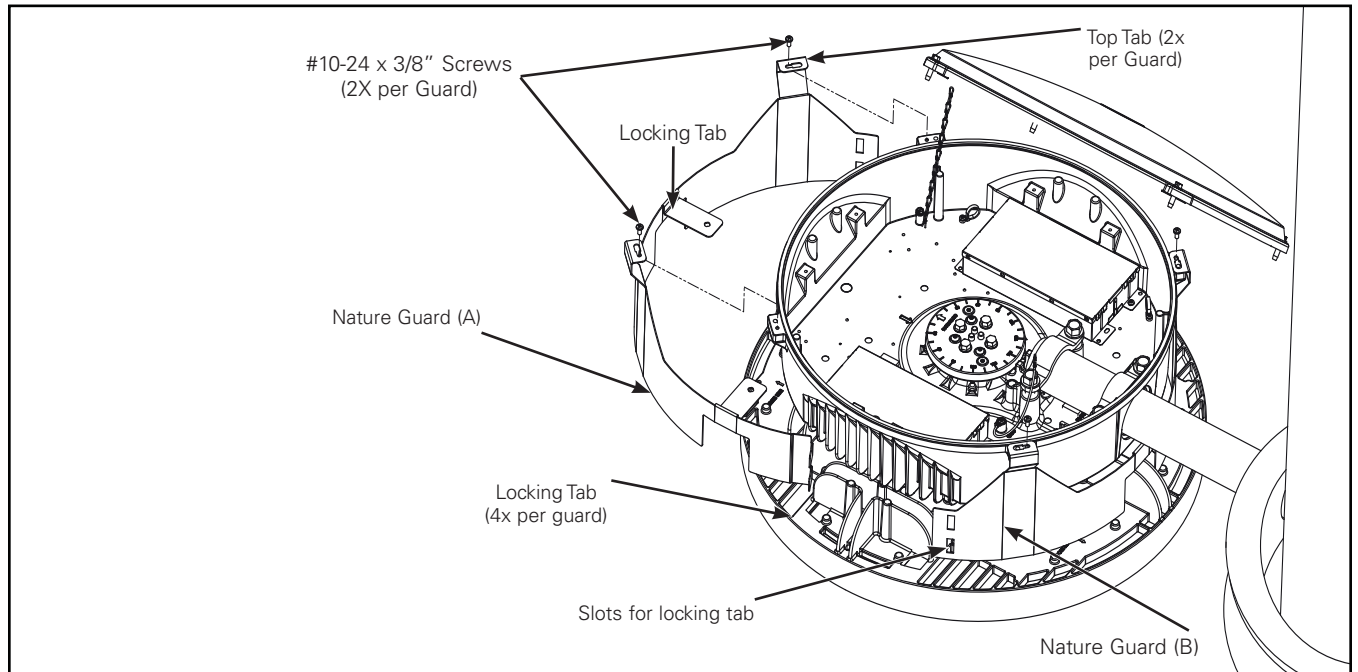

Figure 9.
3. Nature guard is provided in two pieces, labeled A and B (Figure 9). Slide the Nature Guard A, top tabs (2x), over the two mount location of the housing cover mount locations. Carefully align the cutouts on the nature guard over the led housing fins and install the two 10-24 X 3/8" screws to hold the first guard in place. Tighten to 20 in lbs.